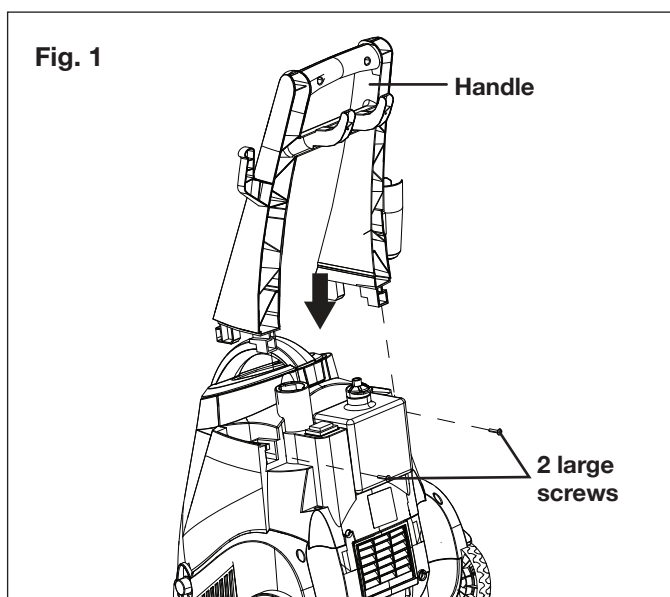

Fig. 1
1. Slide the holder into position and secure it to the unit with two large screws (Fig. 1).